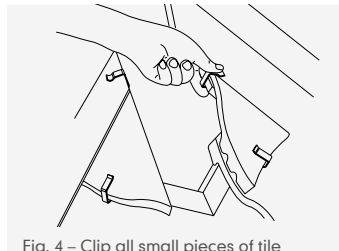

Fig. 4 - Clip all small pieces of tile along hip
- Ensure that all raking cut roof tiles along the length of hip are secured using the 'C' clips provided or secret cut tile clips (Code 43607, sold separately) (Figs. 4 and 5).